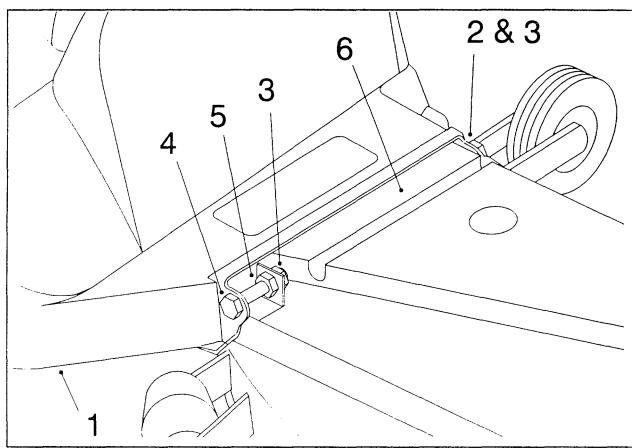

Figure 10
a. Insert a 1/4" x 1-1/2" hex-head bolt through the **right-hand** side of the blower cover. Thread a *regular* nut onto the bolt about 3/8" (1 cm) from the end. Push the bolt through the hinge clip hole and install the *nylon* lock nut so one thread protrudes through the nut (Fig10). Then tighten the *regular* nut against the clip.
b. Mount the **left-hand** side of the blower belt cover to the mower belt cover using a 1/4" x 5/8" bolt and 1/4" nylon lock nut (Fig. 10). Tighten the lock nut until you feel a slight drag on the cover when you rotate it.